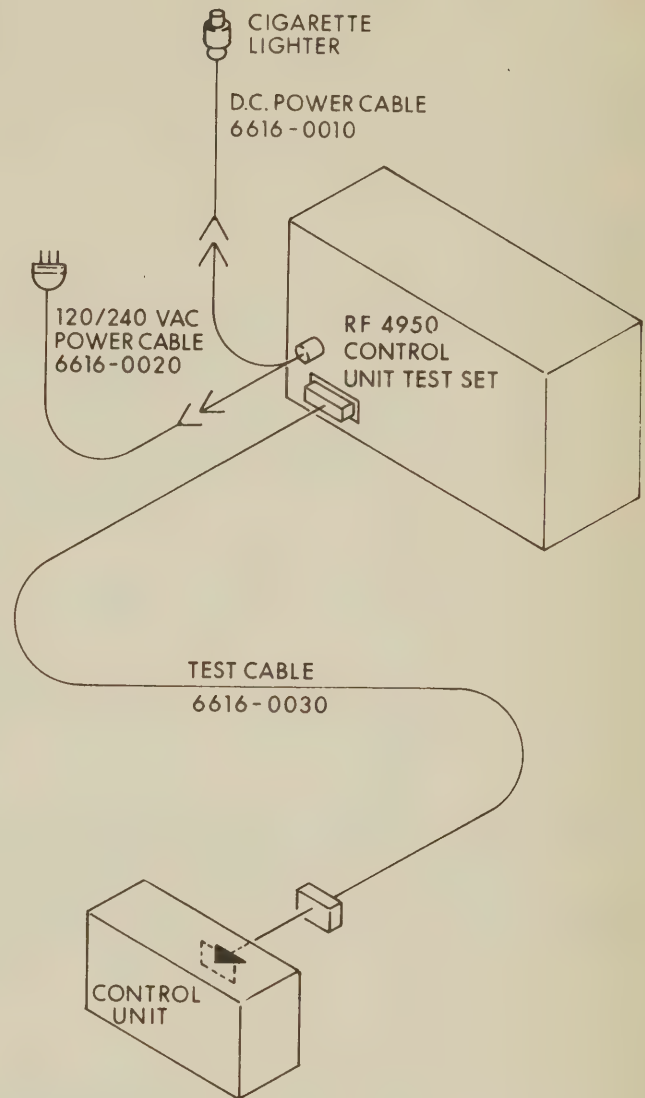

Figure 2-2. Test Set Connection to RF-4910/11/12 Control Units
3.01 When testing a control unit installed in a vehicle, the test set operates on 12Vdc; when used for shop testing of control units, the test set utilizes ac power. See figures 2-2, 2-3, and 2-4 for typical connections. For dc power, use cable 6616-0010 and for commercial ac power, use cable 6616-0020. To operate from a 230Vac line, change the jumpers on the power transformer. Use jumpers A and C for 115Vac and jumper B for 230Vac.
2.01 After completing the self-test procedures in table 2-2, connect the test set to the control unit per figure 2-2 depending on test locations and requirements. With power applied and the control unit hand-set "on-hook", follow the test procedure in table 3-2 below.